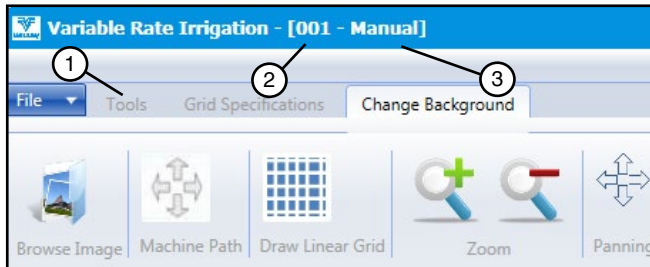

Figure 17-1 1. Tools Tab 2. RTU ID 3. Prescription Name
1. Click the **Tools** tab on the menu bar. See Figure 17-1.